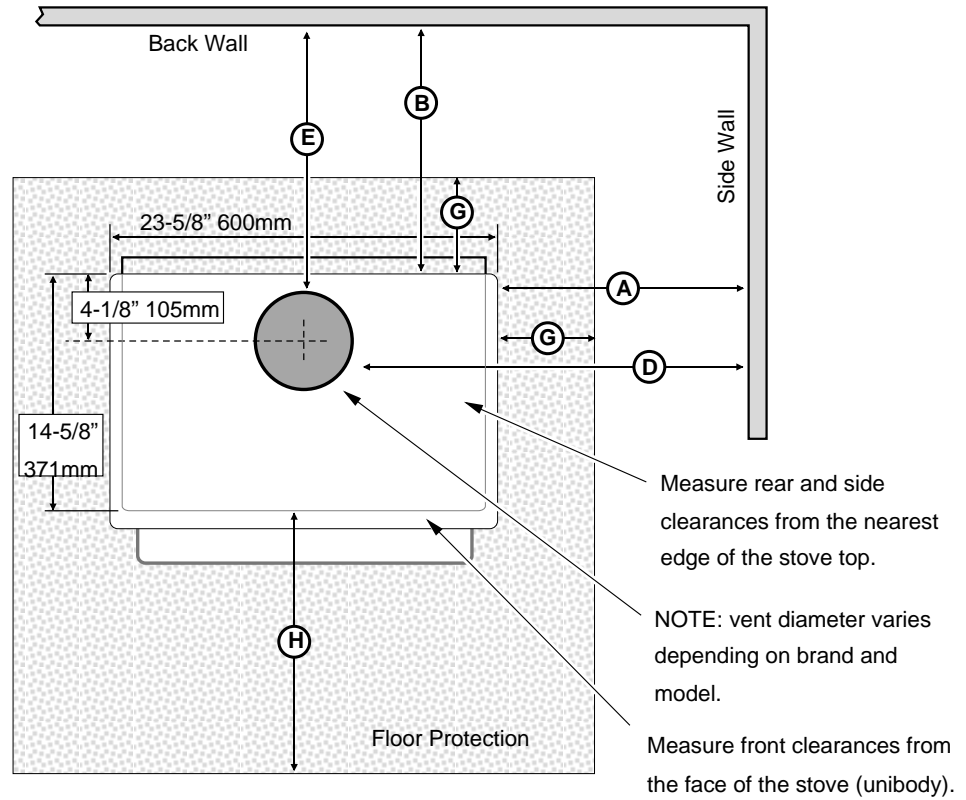

Figure 3
- The following clearances must be met (see Figure 3 and Figure 4)